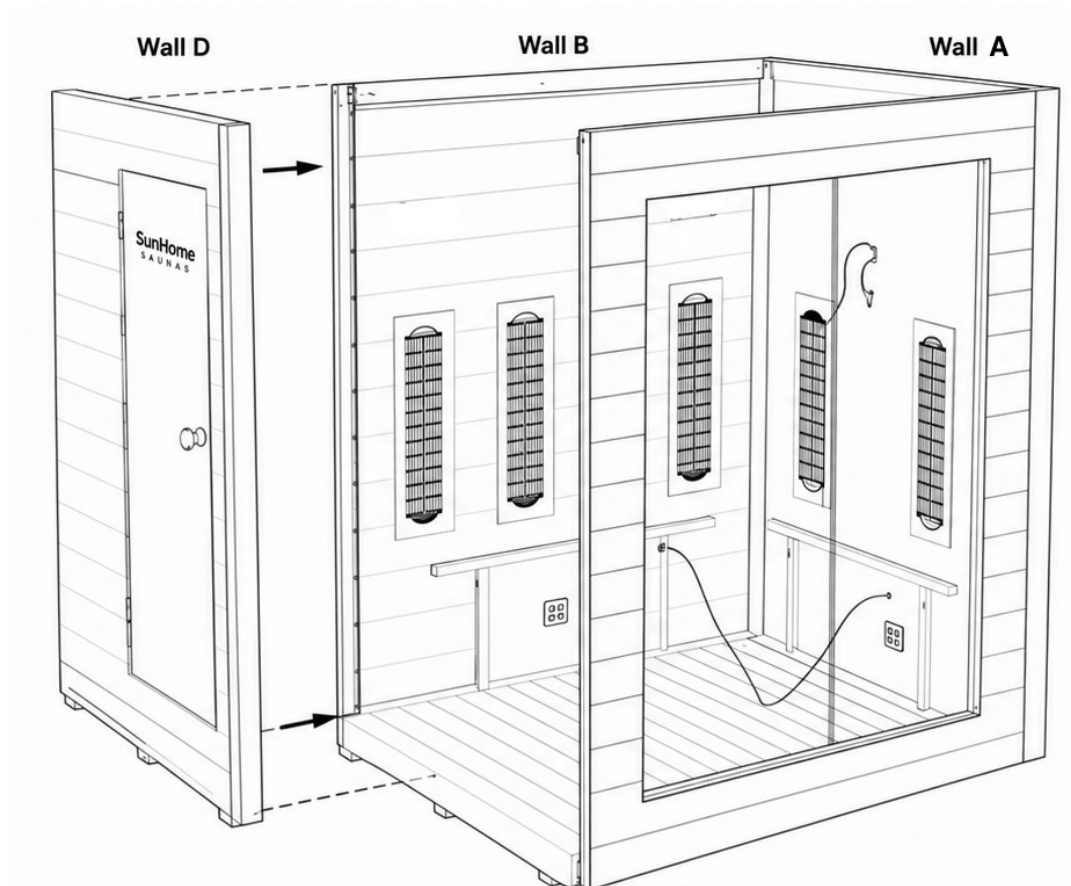

Figure 10. Door Wall (D) closing the fourth corner against Walls B and C.
STEP 7 • Install the Door Wall (D)
- Apply caulk to the free corners of Wall B and Wall C, where the Door Wall (D) will join them.
- With two people, carefully set Wall D into position against both adjoining walls and against the Floor Panel edge on side D (Figure 10).